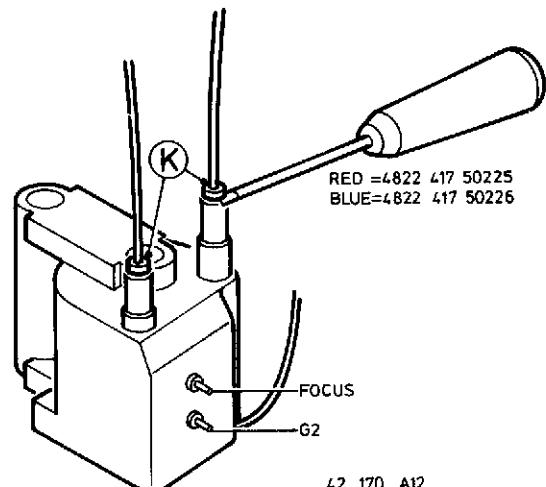

Fig. 3
2. After prizing up the clamping ring K with a screwdriver or side-cutting pliers the EHT and focus cable may be pulled off the line output transformer (see Fig. 3). When refitting the cable first press the clamping ring onto the transformer until a click is heard; after this the cable may be pressed in place. Make sure that the cable is pressed down well.
This is adjusted with the focussing potentiometer on the line output transformer (fig. 3).
Adjust with the G2 potentiometer on the line output transformer (see Fig. 3) the black level for 130V.